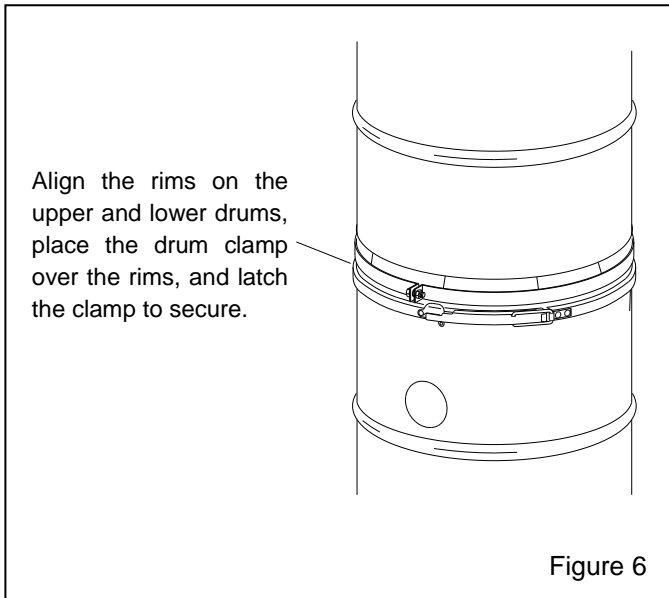

Figure 6
**2.1.1.3** Place the bag clamp ring over the bag and tighten the clamp bolt to secure. **NOTE: Make sure there is enough space between the clamp ring and drum rim to attach the drum clamp and connect the upper and lower drums, as shown in Figure 6.**